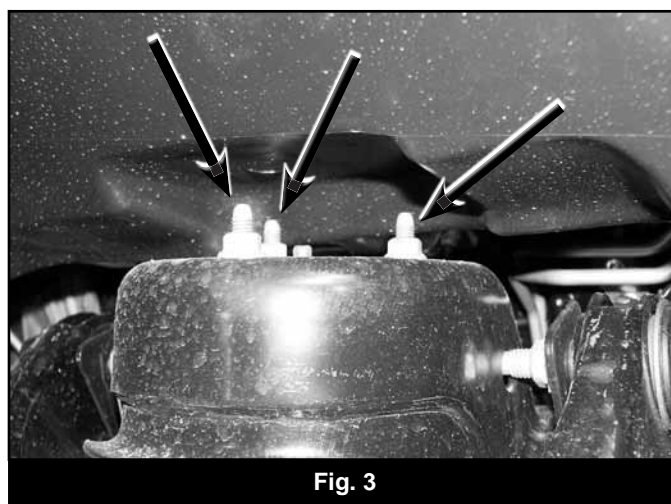

Fig. 2b
15. 4 inch kits only: Disconnect the brakeline hardware from the strut tower and pull the brakeline through the mount. Cut a slot to allow the brakeline to be removed from the frame. If you do not wish to cut on the frame, the line can be disconnected and reconnected after it is removed from the frame. If the line is disconnected the brakes must be bled at the end of the installation **Figure 2b**